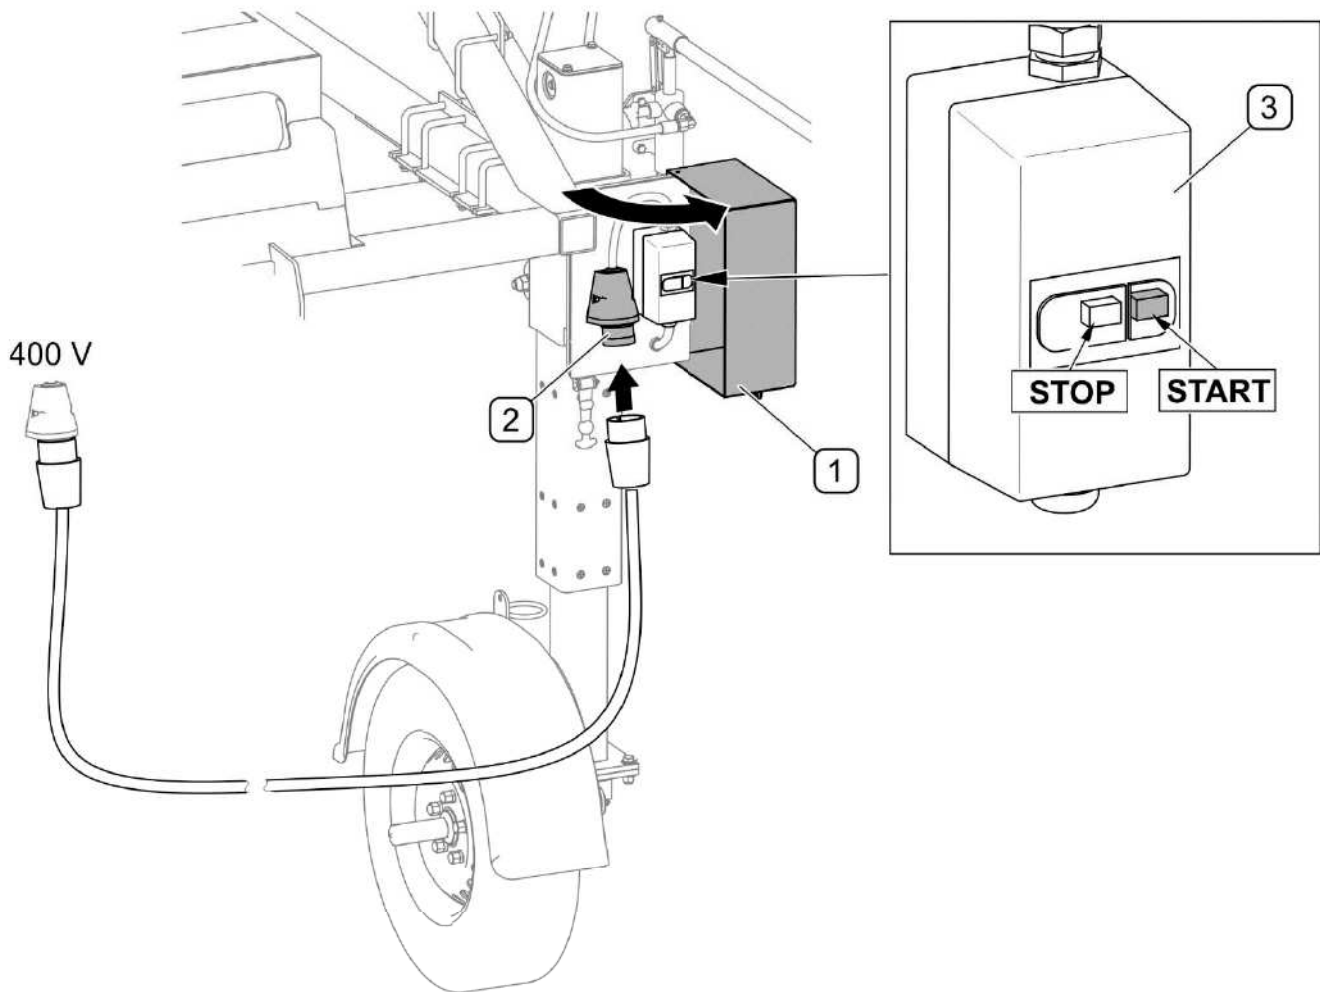

FIG. 4.37 Connecting the machine to the mains
- connect the sand spreader to the mains (FIG. 4.37),
- turn on electric motor using switch (3) on the drive wheel column (FIG. 4.37),